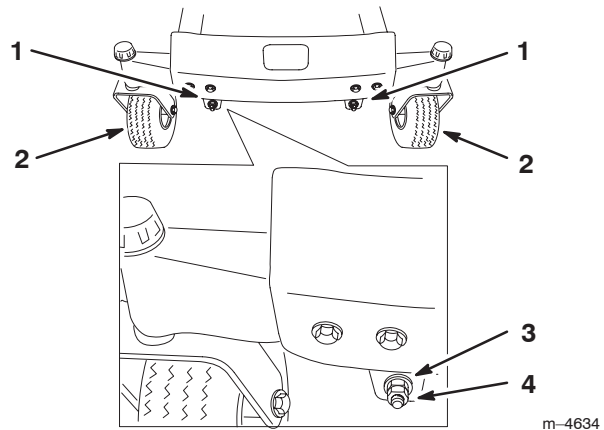
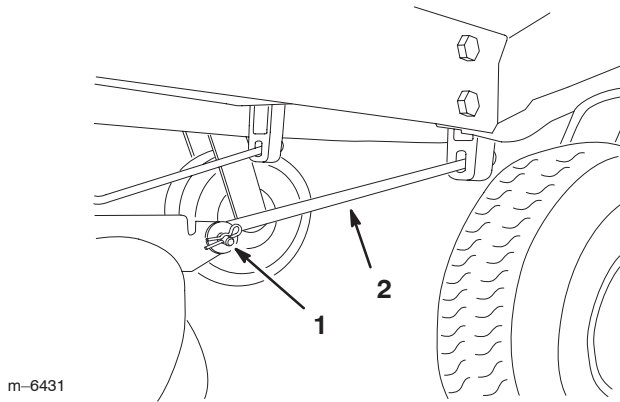

Figure 42
Figure 44
10. To adjust the front-to-rear blade slope, remove the locknuts and then rotate the adjustment nuts in the front of the mower (Fig. 42).
12. After adjusting both adjustment nuts evenly, check the front-to-rear slope again. Continue adjusting the nuts until the front blade tip is 1/16–5/16 inch (1.6–7.9 mm) lower than the rear blade tip (Fig. 42).
Note: After adjusting the adjustment nuts, make sure there is **no slack** in either support rod (Fig. 44). Tighten either one to remove the slack (Fig. 42).
4. Remove the hairpin cotter and clevis pin from the front support rod on each side of the mower.(Fig. 44).
7. Attach the front support rods to the machine with the clevis pins and hairpin cotters (Fig. 44).